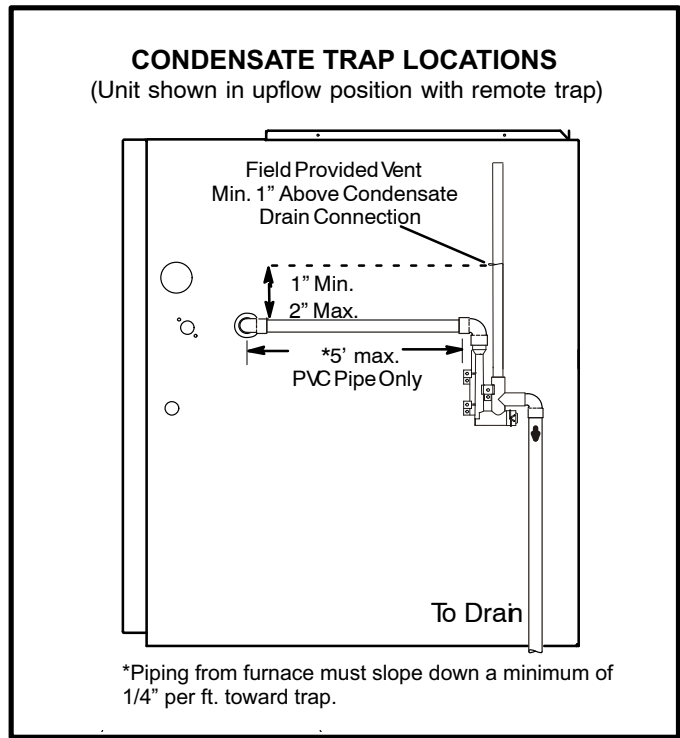

**FIGURE 43**
**NOTE** - Appropriately sized tubing and barbed fitting may be used for condensate drain. Attach to the drain on the trap using a hose clamp. See figure 43.